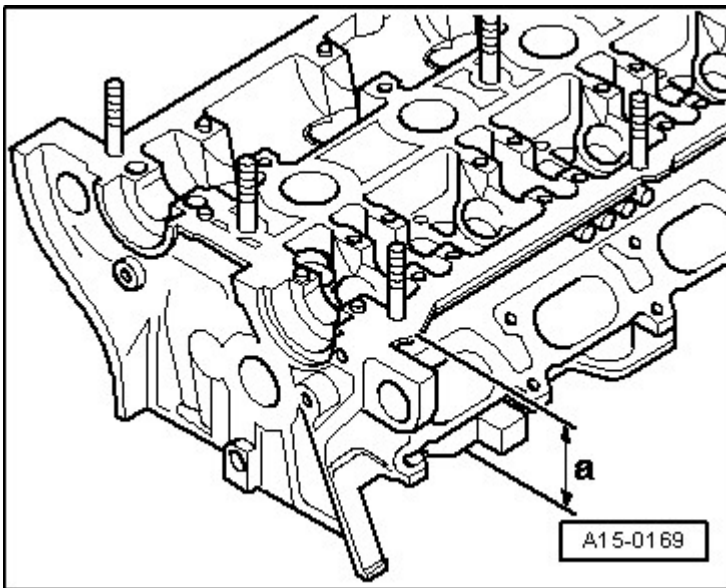

Fig. 15: Cylinder Head Refacing Dimension
- Checking reworking dimension **Fig. 15**